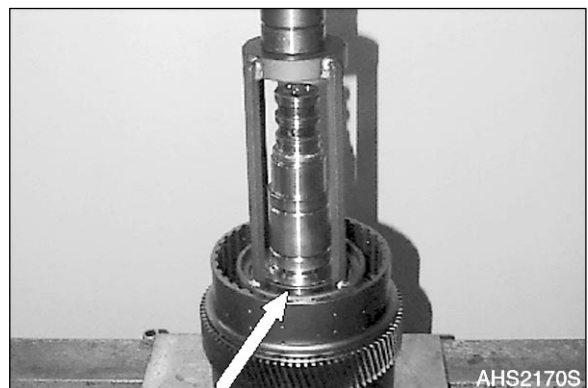

Figure 258
12. Lift the plate carrier out of the clamping ring. Preload compression spring using Special device (S) and squeeze snap ring into the annular groove of the plate carrier (Arrow) – see Figure 258.
14. Now, lift the plate carrier, with the KV-side facing downward, into the clamping ring (S) and secure it. Tilt plate carrier 180°.